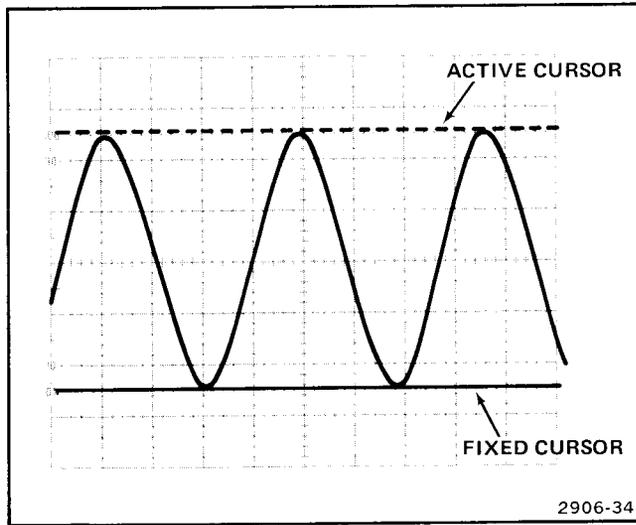

Figure 17. Ac peak-to-peak voltage, cursor method.
4. Push the CURSOR SELECT button (center of CURSOR control knob) to active the other cursor, and use the CURSOR control knob to move the cursor to the opposite peak of the waveform (see Figure 17).